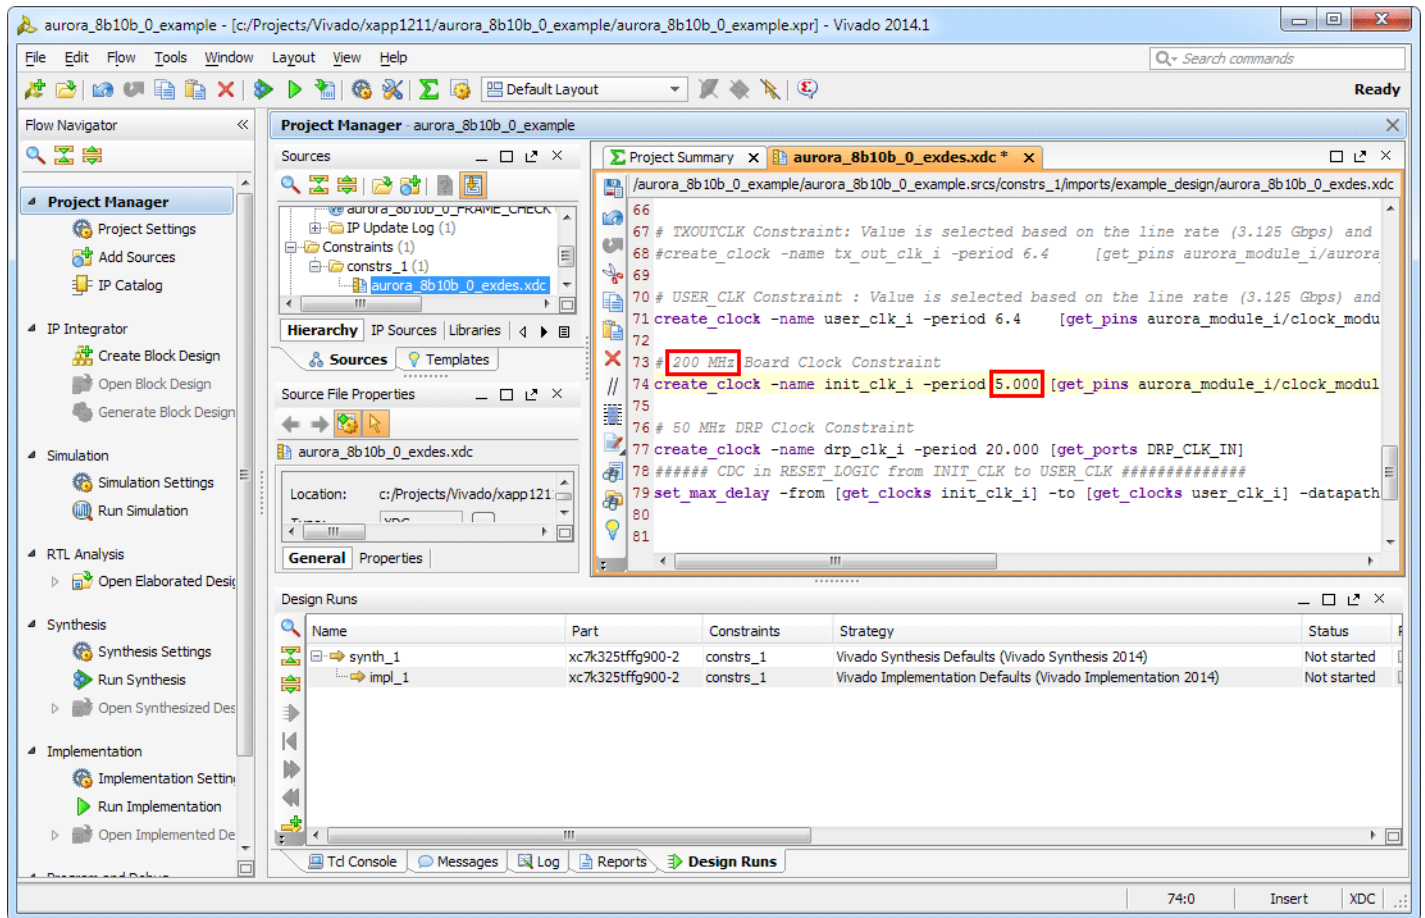

Figure 13: Simplex Board Clock Constraint
10. Change the period from **20.000** to **5.000** (see Figure 13).